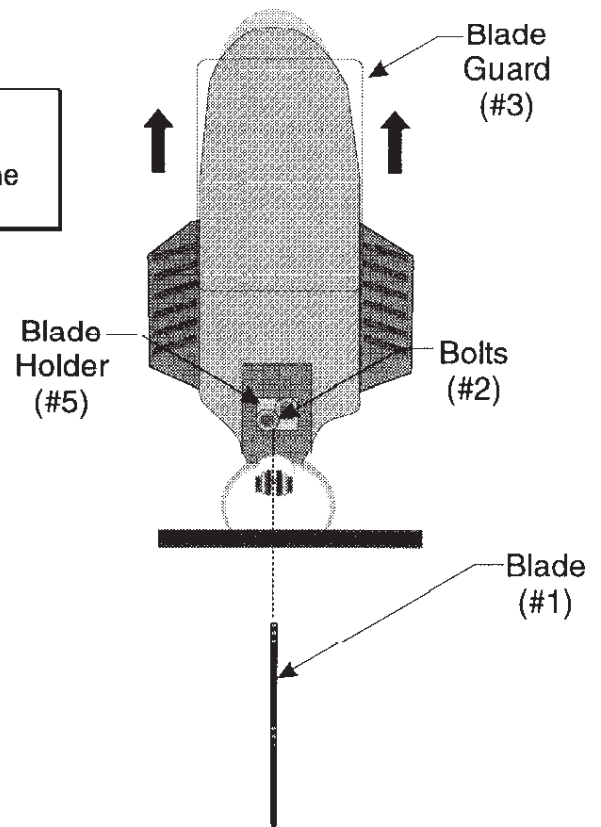

Figure 1 -- Attaching the Blade
- Step 2: Slide the BLADE GUARD (#3) up to expose the BLADE HOLDER (#5) as shown in Figure 1.
Step 1: Slide the BLADE GUARD (#3) up to expose the BLADE HOLDER (#5) (see Figure 1).